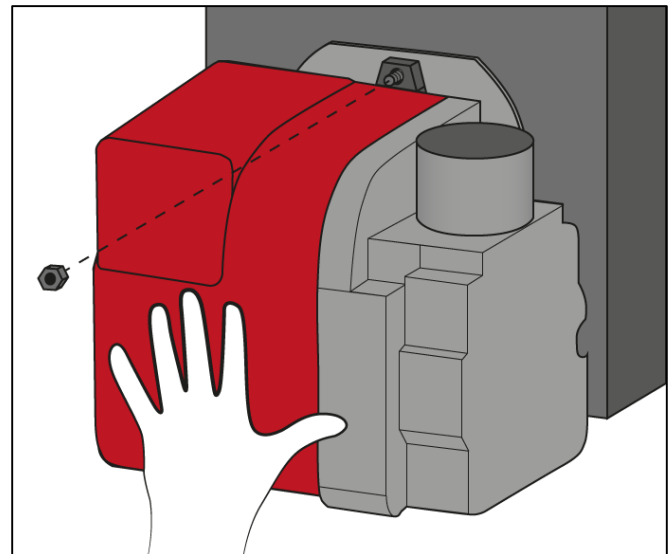

Fig. 3 Holding the burner in position & fitting the retaining nut
- ▶ Ensure the burner is supported in position whilst the retaining nut is fitted & tightened (see Fig. 3).